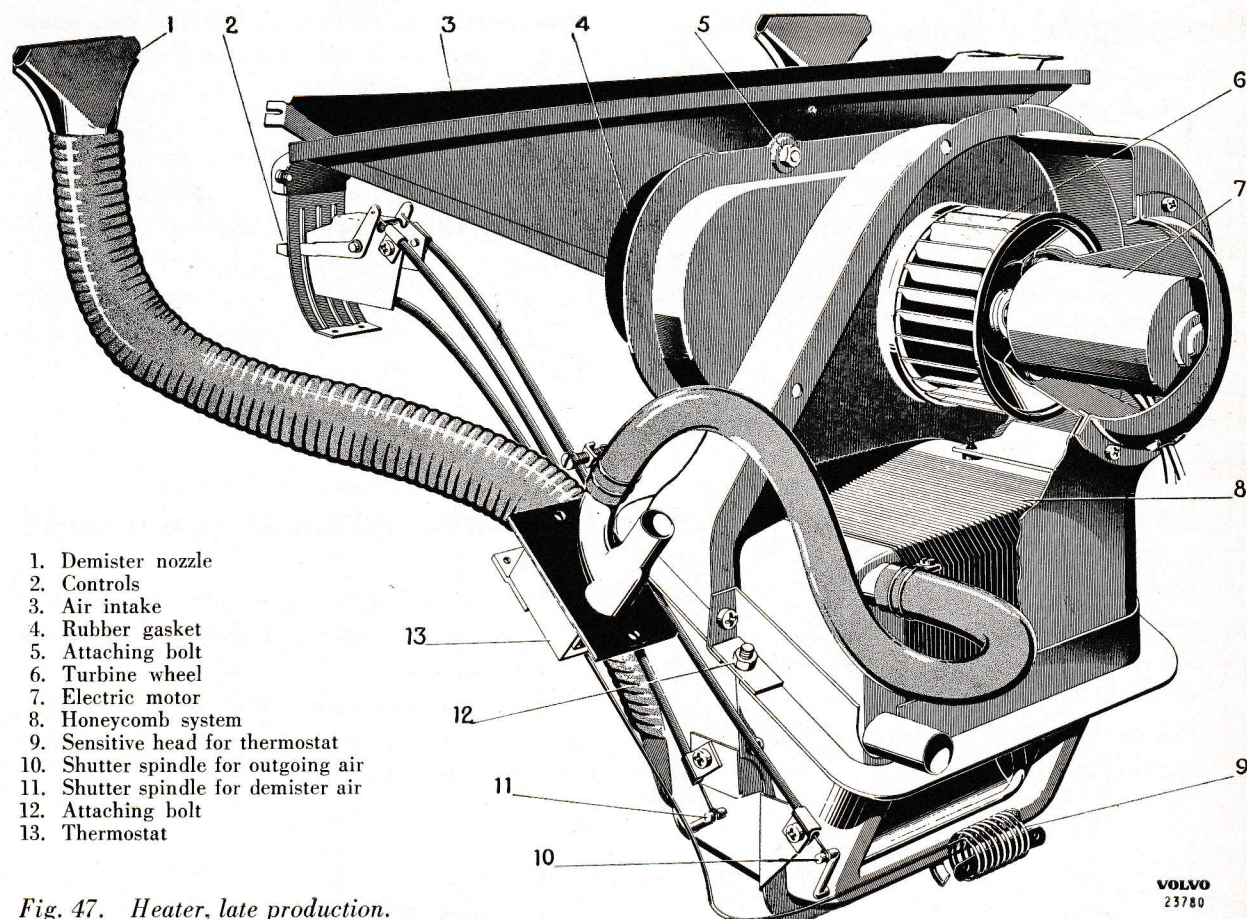

Fig. 47. Heater, late production.
The heater illustrated in Fig. 47 consists of: air intake (welded to the body), water deflector, turbine housing with fan motor and turbine, honeycomb system, distributing housing with shutter, thermostat and controls.
4. Unscrew the three bolts which hold the heater to the body (5 and 12, Fig. 47) and lift it off.
The honeycomb system can be removed after both the casing halves have been taken apart. The spiral (9, Fig. 47), forms the sensitive head of the thermostat and is placed in front of the control opening for the outgoing air.